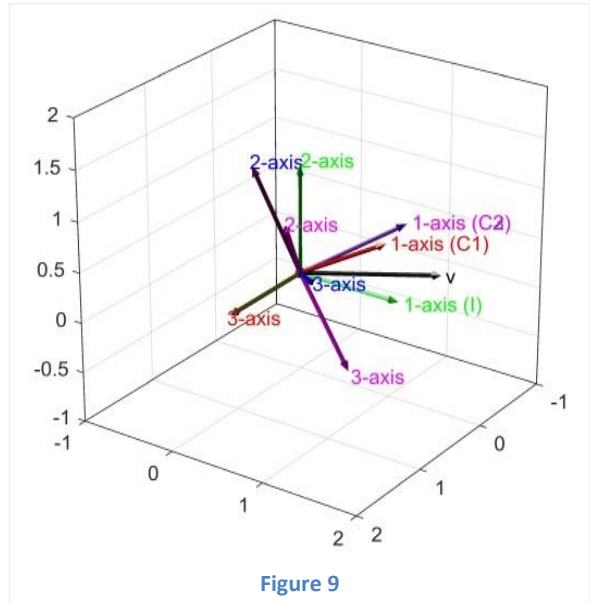

Figure 9
- (a) Make a screenshot of your output; it should look like in Figure 9. The best way of doing this in MATLAB is by executing the following line (or adding it to your script): `print(gcf, '-r600', '-djpeg', 'Problem_6_Output.jpg');`
☑ Use the file `TestFile_9_BetterCoSysCLASS.m` to use your class `BetterCoSysCLASS.m`. The output of the script should look the same as in Figure 9.